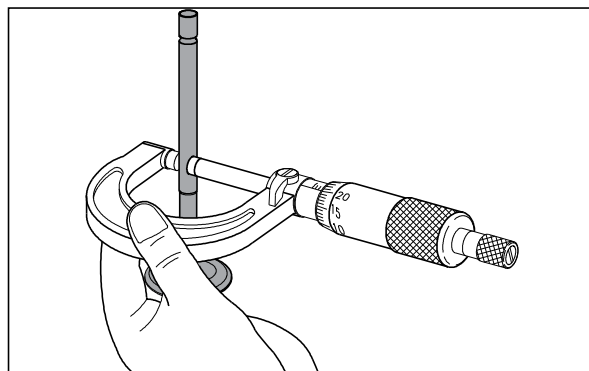

Fig. 3.68
- Inspect each valve for trueness, burning, scratches, abnormal wear or bend. Measure the outside diameter of valve stem on the operational area. (Fig. 3.68)